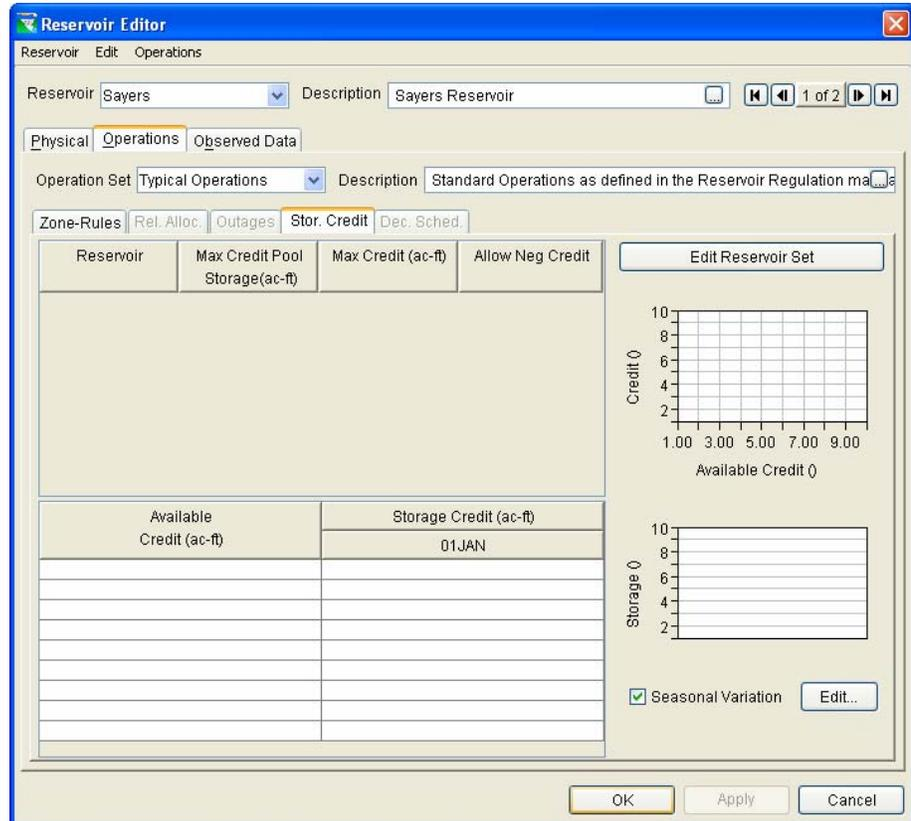

Figure 11.107 Storage Credit Editor
2. **Stor. Credit** The **Storage Credit** tab becomes available (Figure 11.107) where you will enter the **Reservoirs** that are included in the storage credit sharing, the **Maximum Credit Pool Storage** for each reservoir, the **Maximum Credit** that each reservoir can use, and an option to **Allow Negative Credit**. Also, you will enter the relationship between **Available Credit** vs. **Storage Credit**.